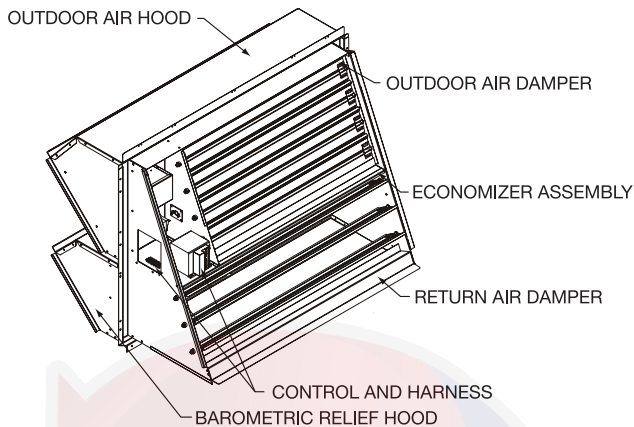

Fig. 17 — Bottom Return Economizer Package (BREP) for Sizes 07-17
1. Check for correct number of parts shown in Fig. 17 and the following list.